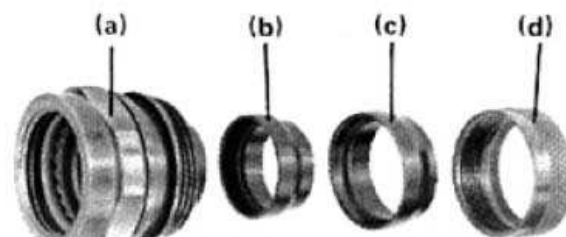

Figure 1
1. Prepare the cable for termination process and slide onto the cable the items in the order shown on figure 1.